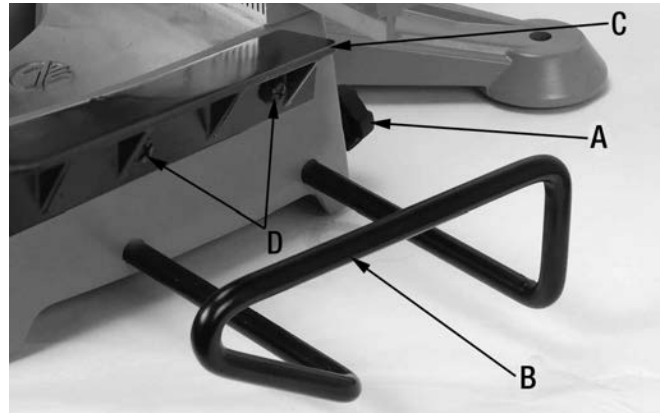

FIGURE 3
Before using this miter saw, it is recommended to use the extension wings to support your workpiece. Simply loosen extension wing lock knob (A) Fig.3, pull out the extension wing (B) and secure it in place by tightening the extension wing lock knob (A). Repeat for the other extension wing.
Install table support extensions (C) Fig.3 on both sides of the table using two pan head screws (D).